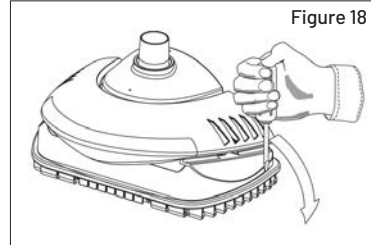

Figure 18
1. With a screwdriver, carefully work the rubber vacuum pad down over the lip of the Outer Housing, (see Figure 18).